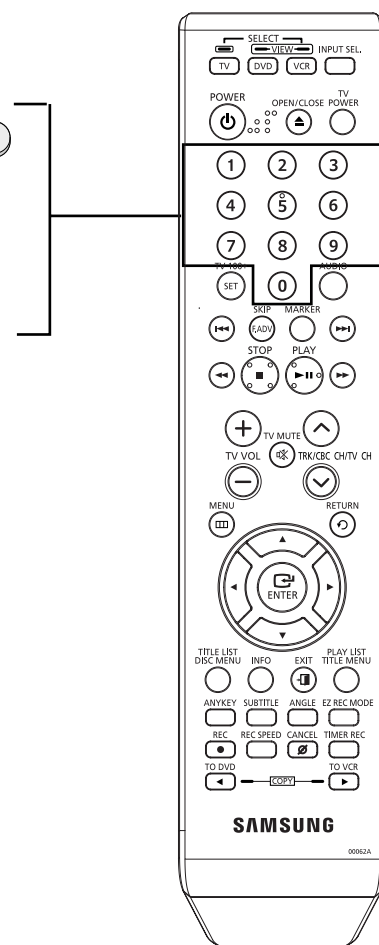

Fig. 3-1
- 3) Press the “1, 0” buttons; remote control adjustment operates automatically. (See Fig. 3-1)
- 3) Press the "0, 5" remote control buttons, then adjustment is operates automatically. (See Fig. 3-1)
Check transition from RPS mode to play mode : Using a pre-recorded SP tape, make sure the entry side of envelope comes to an appropriate steady state within 3 seconds (as shown in Fig. 3-1).